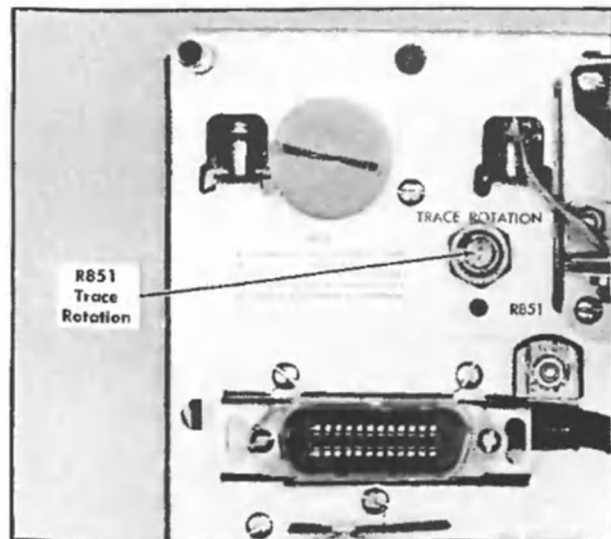

Fig. 6-9. Location of Trace Rotation adjustment (rear panel).
c. ADJUST—Trace Rotation adjustment, R851 (see Fig. 6-9), so the trace is parallel with the horizontal graticule lines.